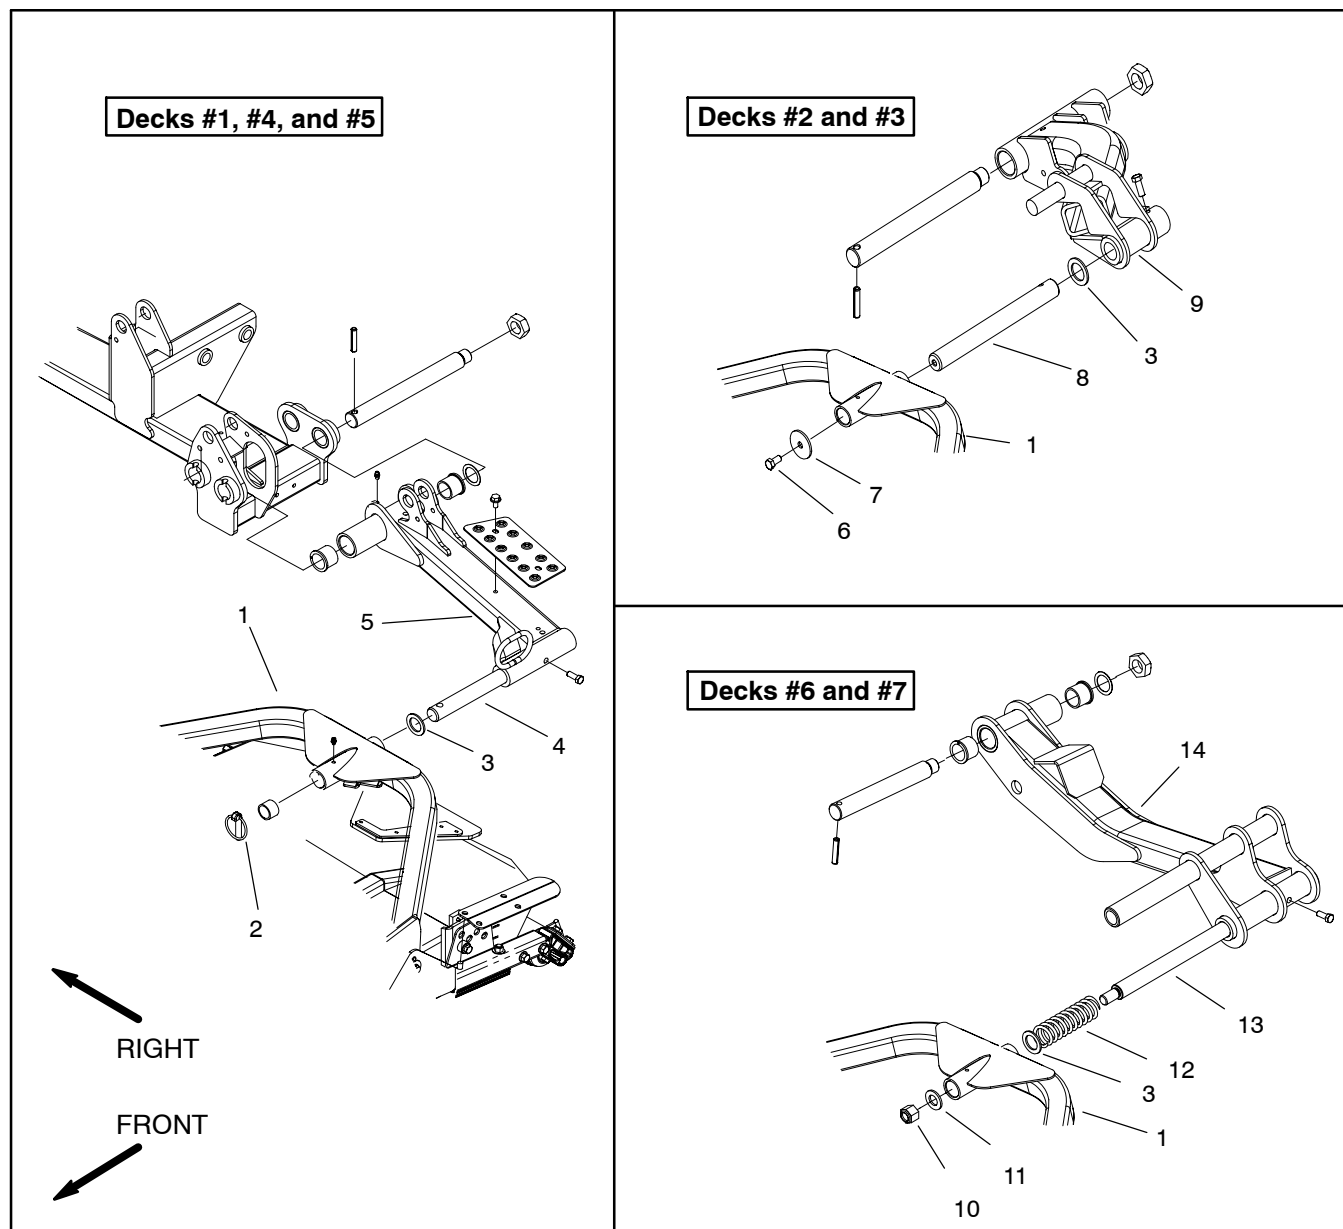

Figure 19
1. Carrier frames for the front three cutting decks (#1, #4, and #5) have a thrust washer between the carrier frame and the lift arm. The frame is secured to the lift arm pivot shaft with a lynch pin (Fig. 19).
2. Carrier frames for the center two cutting decks (#2 and #3) have a thrust washer between the carrier frame and the lift arm. The frame is secured to the lift arm pivot shaft with a rebound washer and cap screw (Fig. 19).
3. Carrier frames for the rear two cutting decks (#6 and #7 on the GM4700-D) have a compression spring and thrust washer between the carrier frame and the lift arm. The frame is secured to the lift arm pivot shaft with a flat washer and lock nut (Fig. 19).